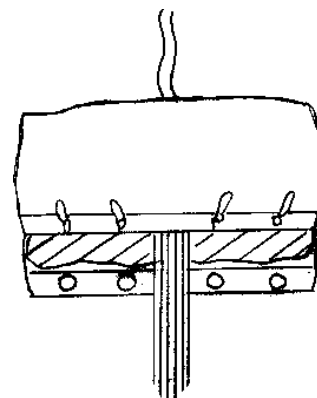

Figure 2-6
Step 11 Pull the bag down onto the canopy. Try to fill the corners and sides of the bag to distribute the bulk evenly and avoid forming a lump in the middle (*Figure 2-6*).